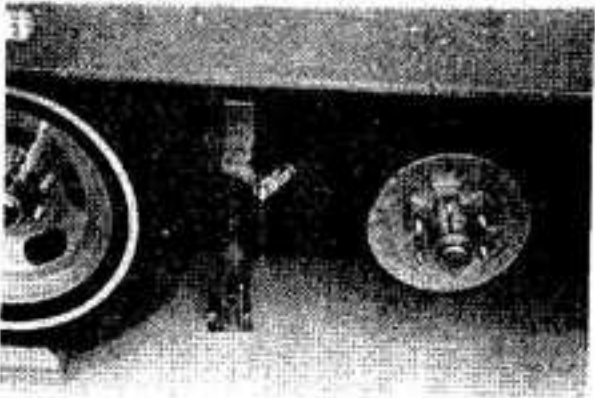

Figure 3
- Insert wood block between rear shackle and frame. Fig. 3